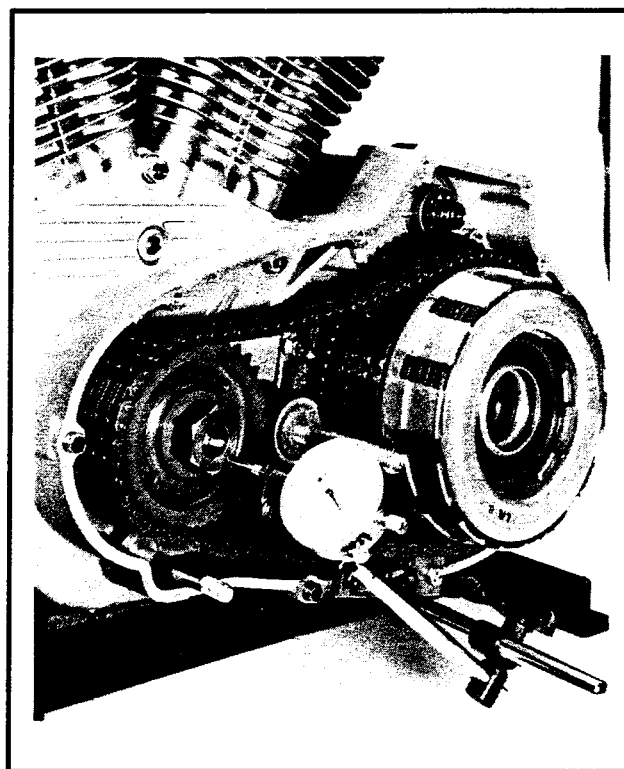

Figure 2. Checking Flywheel End-Play
1. See Figure 2. Secure a dial indicator to crankcase with indicator stem against sprocket shaft nut.